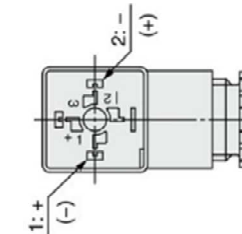

Figure 2. DIN terminal polarity
- Internal connections are as shown in Figure 2. Make connections to the power supply accordingly.